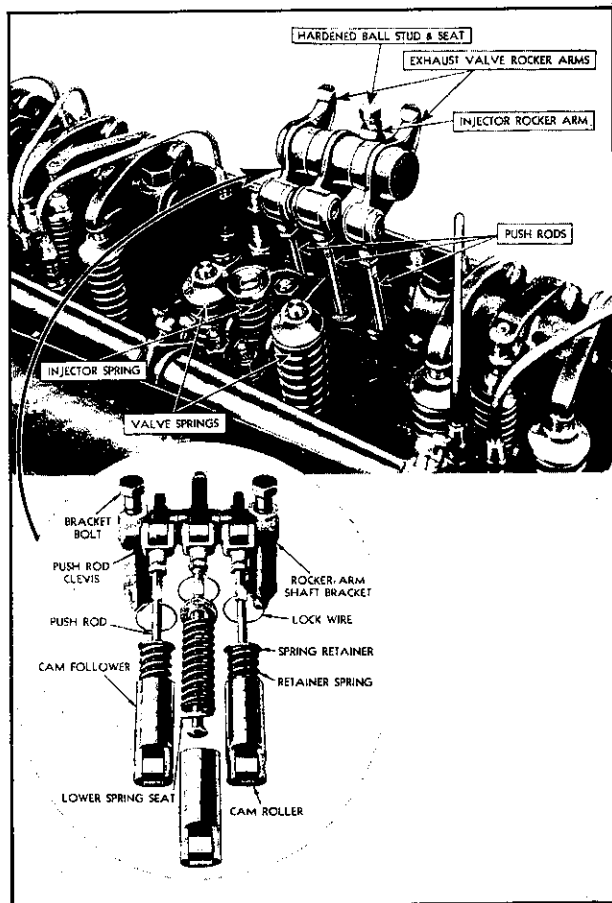

Fig. 1—Valve Operating Mechanism.
**Description**—Three drop-forged rocker arms are provided for each cylinder, the two outer arms operating the exhaust valves and the center one the fuel injector, as shown in Fig. 1. Each rocker arm assembly operates on a separate shaft supported by two cast iron brackets. A single bolt fastens each bracket securely to the top deck of the cylinder head. Consequently, the removal of these two bolts and the shaft permits raising the rocker arm assembly and gives easy access to the fuel injector and the valve springs.